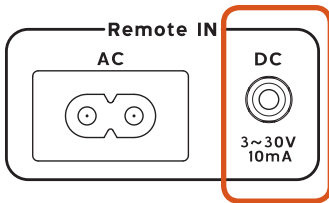

Fig. 3a
- A. Connect the Remote DC Control Cable (included) into the socket labeled “DC IN” on the rear panel of the Power Console. (Fig. 3a)